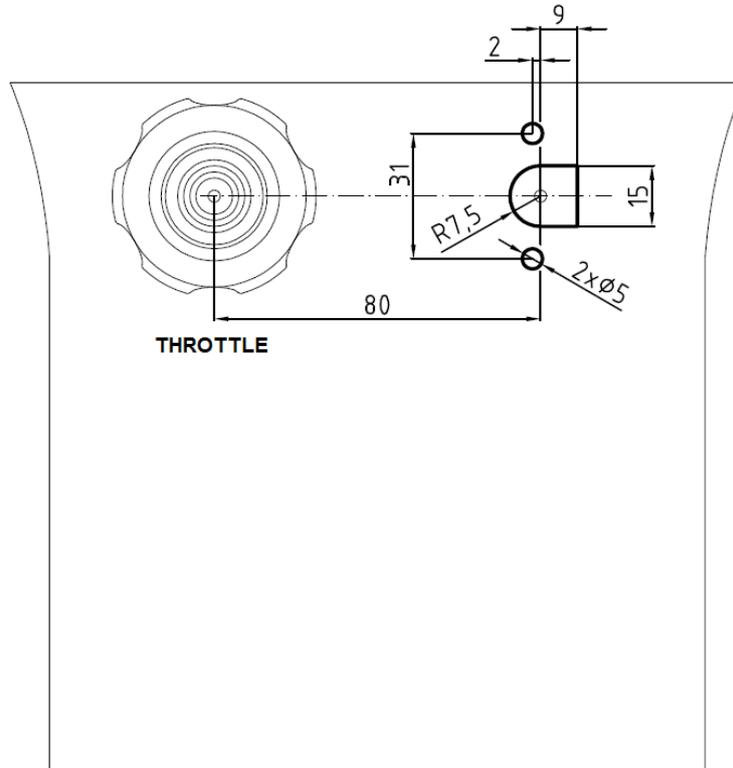

Fig. 2 Openings in central console
- (d) Drill the holes in the central console according the Fig. 2.